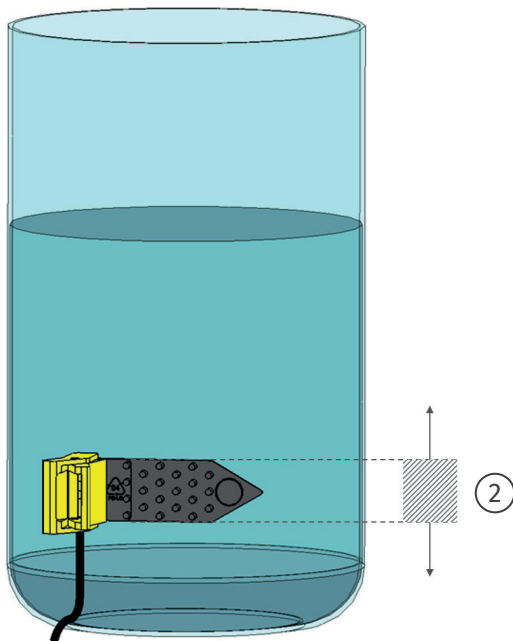

Fig. 7: Sample positioning for LSP trigger range
Fasten the LSP to the fluid container to be monitored that corresponds to the fill level at which the system should respond when the fluid level is not high enough (limit range ②, fig. 7). Also follow the manufacturer specifications and/or labelling on the reservoir. The LSP may only be attached and used in the filling area specified and permitted for the respective container.